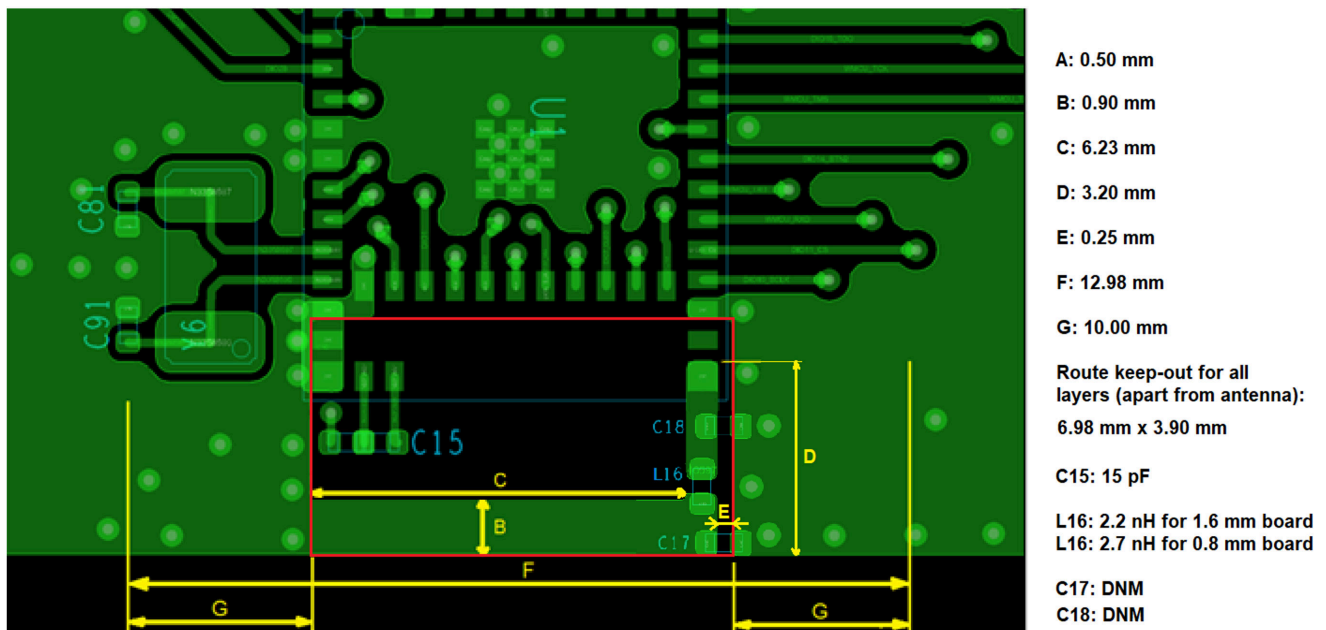

図 10-8. Alternate Module Layout Guidelines
The PCB layout guidelines recommended in this section are to be used when the PCB requirements of セクション 10.4.2 cannot be strictly followed. This would include deviation from the recommended 4-layer PCB stackup, dielectric constant, and outlined design rules. 図 10-8 shows the RF placement and routing of the CC2651R3SIPA module with the 2.4-GHz integrated antenna.
- Dimensions A thru F in 図 10-8 must be strictly adhered to for optimal RF performance
- For optimal efficiency of the antenna, its best to have a minimum 10-mm ground plane on either side of the module on all layers as shown with dimension G in 図 10-8